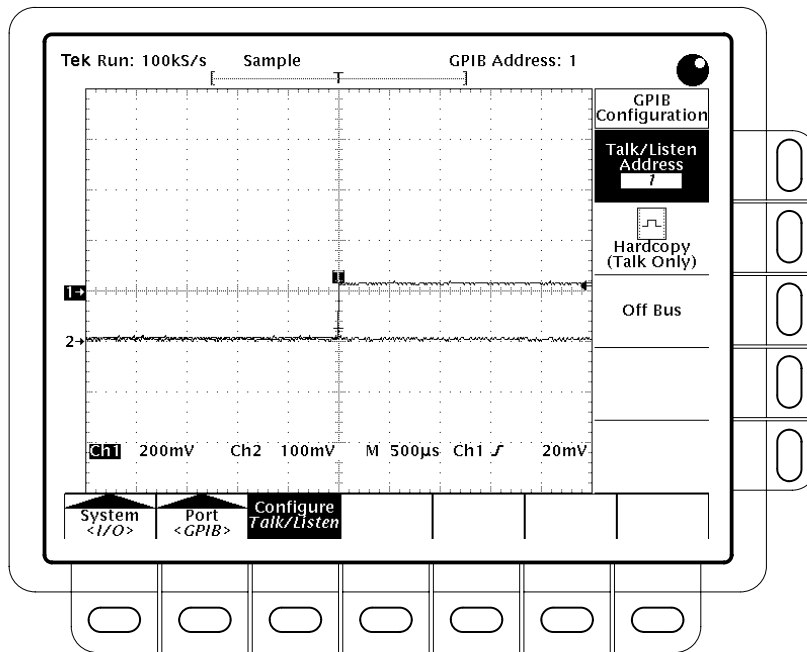

Figure 3–26: Utility Menu — System I/O
1. Press **SHIFT UTILITY** → **System** (main) → **I/O** (pop-up) → **Configure** (main) (see Figure 3–26).